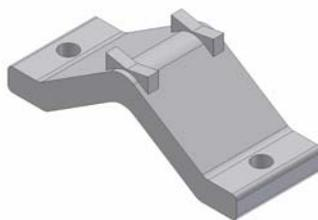

Figure B-2. Small Clamp
- One Small Clamp (see figure B-2)